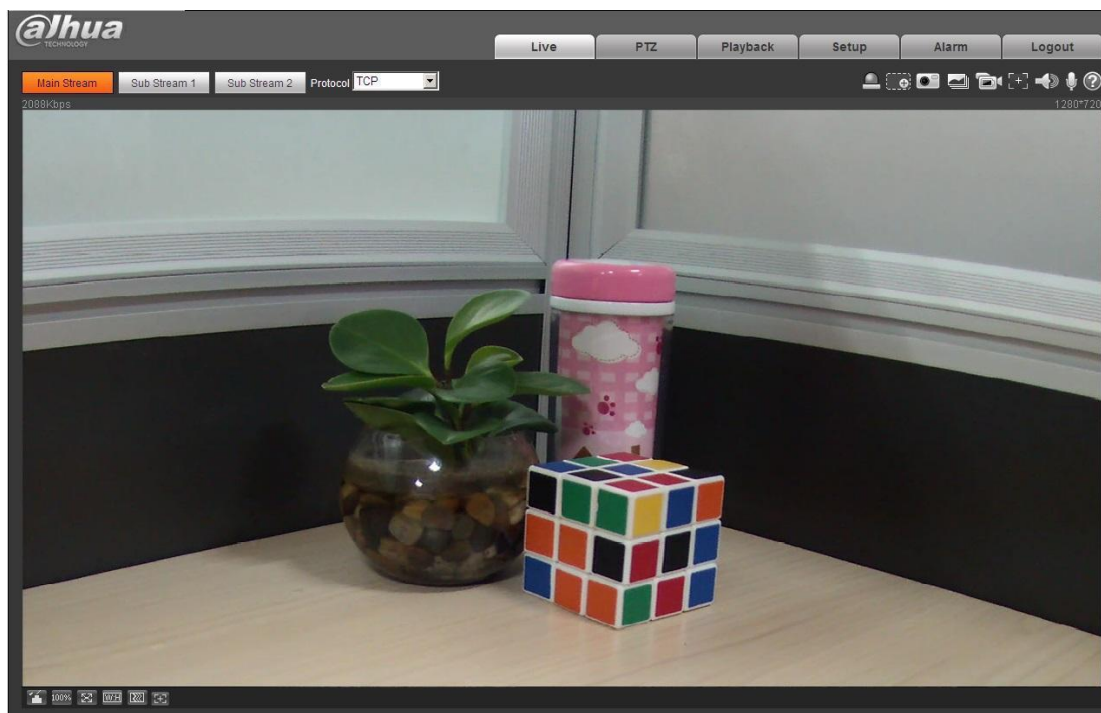

Figure 3-4
Step 3 Install controls according to the system prompt; see Figure 3-4 for the WEB main interface.